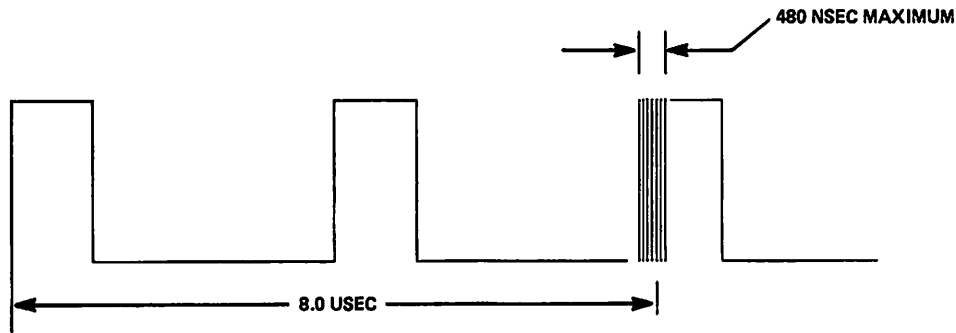

Figure 2-3
2.1.2.4 Observe the following pattern (see Figure 2-3).
- 2.1.2.5 Measure the amount of jitter present on the leading edge of the third pulse (see Figure 2-3). The leading edge of the third pulse should start 8 usec  $\pm$  240 nsec from the trigger pulse. Jitter on the third pulse of greater than  $\pm$  240 nsec (480 nsec edge-to-edge) indicates excessive ISV.